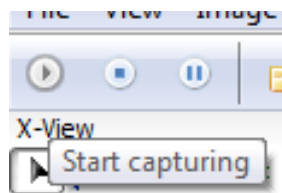

Figure 3-3 Start Capturing
- Press <Start Capturing> to start grabbing frames (see Figure 3-3).